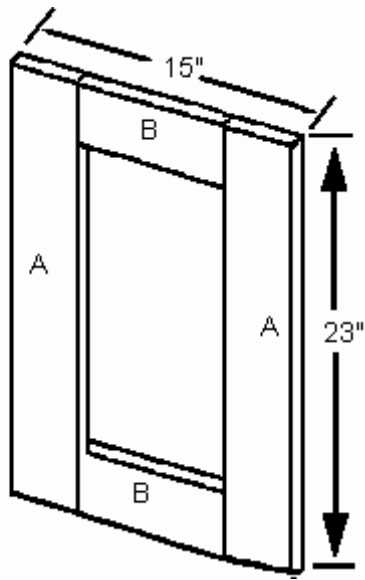

Figure 1
1. Cut four vertical trims (A) from 1 x 4 pine, each measuring 23 inches long.
2. Cut four horizontal trims (B) from 1 x 4 pine, each measuring 8 inches long.
3. Cut two sides (C) from 1/4-inch beaded plywood, each measuring 15 x 23 inches.
4. Place two vertical trims (A), better face down, on a level surface, parallel to each other and 8 inches apart. Fit two horizontal trims (B), better face down, between the ends of the vertical trims (A), as shown in *Figure 1*.
5. Apply glue to the faces of the trims (A and B). Place one side (C) (beaded side down) over the horizontal and vertical trims (A and B), matching all four edges. Nail through the side (C) 1 inch from each of the edges, using 3/4-inch brads spaced about 4 inches apart.